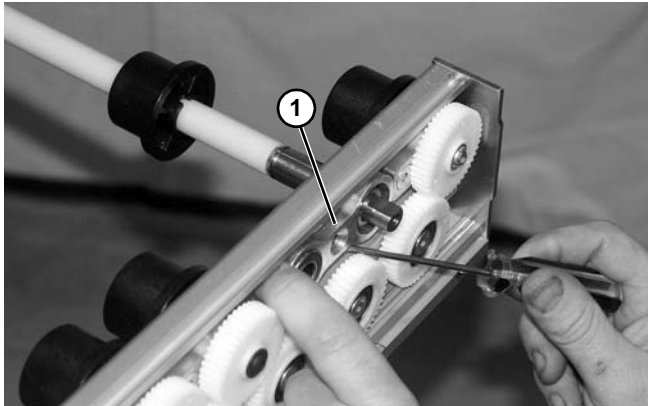

Figure 23
10. Use a small screwdriver to release bearing assembly (**Figure 23, item 1**) from the conveyor frame.